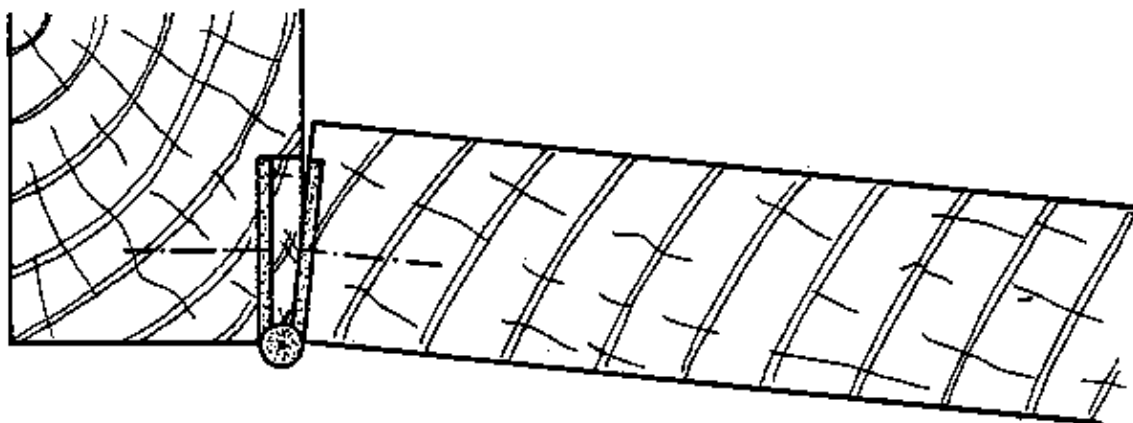

Fig. 3
– One possible reason that a door won't close well is that it is hinge bound/This means that the leaves of the hinges are set too deep. To remedy this, you must remove the hinge and place a thin piece of wood between the leaf and the post (Fig. 3).